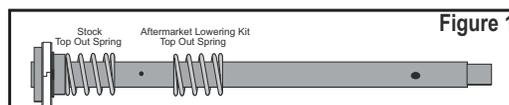

Figure 1
■ If your bike is currently equipped with any type of fork lowering kit, such as a Burly Brand LOWBOY or other, You **MUST** remove that kit before installing this Slammer Kit. The Slammer fork kit is designed to work **ONLY** with the Stock fork rebound or top out springs. **WARNING** Failure to remove existing fork lowering kit components will result in unsatisfactory performance and may lead to fork damage, loss of vehicle control and injury. **Figures 1 & 2**